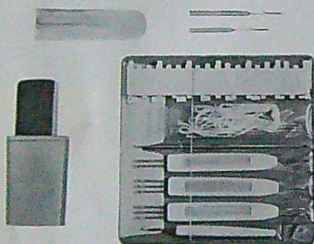

Fig. 9
Replace the hand brush, handle, oil bottle, laying-in pattern weights in the box. (See Fig.9)
7. Replace the small tools in the accessory kit. (See Fig.9)